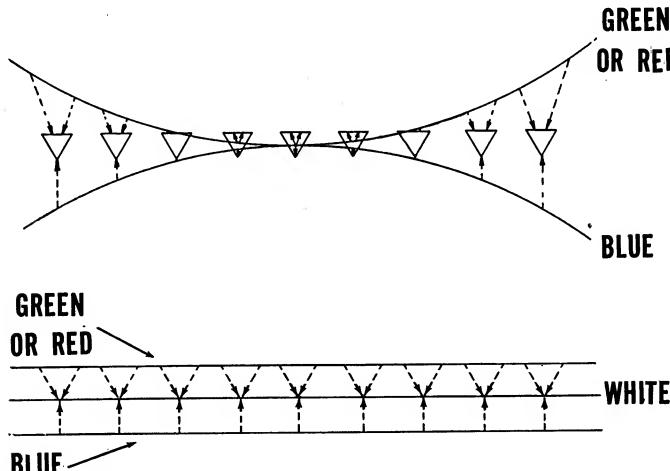

Figure 24—Dot motion due to adjustment of horizontal amplitude and phase controls
3. Adjust the green vertical parabola amplitude and phase controls to make the vertical green bar parallel or coincident with the associated red bar along the vertical axis of the raster. (IF STEP B, (1) was set up properly, the red and green vertical bars will be parallel and the red and green horizontal bars along the vertical axis of the raster will be equally spaced. If these conditions do not exist, STEP B, (1) and (3) should be repeated).
**STEP C—Setup of the Horizontal Convergence Controls (See Figure 24).**